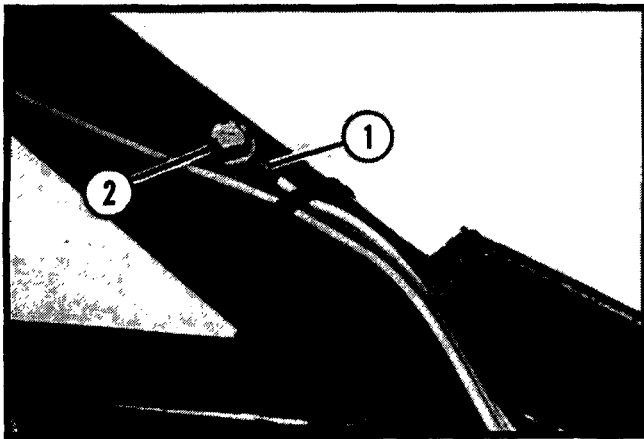

Figure 2
4. Locate and drill one 7/32" (6 mm) hole on the top of the left frame member approximately 3" (76 mm) from the back of the trailer hitch. Scrape the paint off the frame around the hole to ensure a good ground. Attach terminal (on white wire) to frame using a 1/4 -20 x 1/2" (6.35 mm) self tapping screw. Secure the wires with a wire tie just in front of the terminal (See Figure 2).